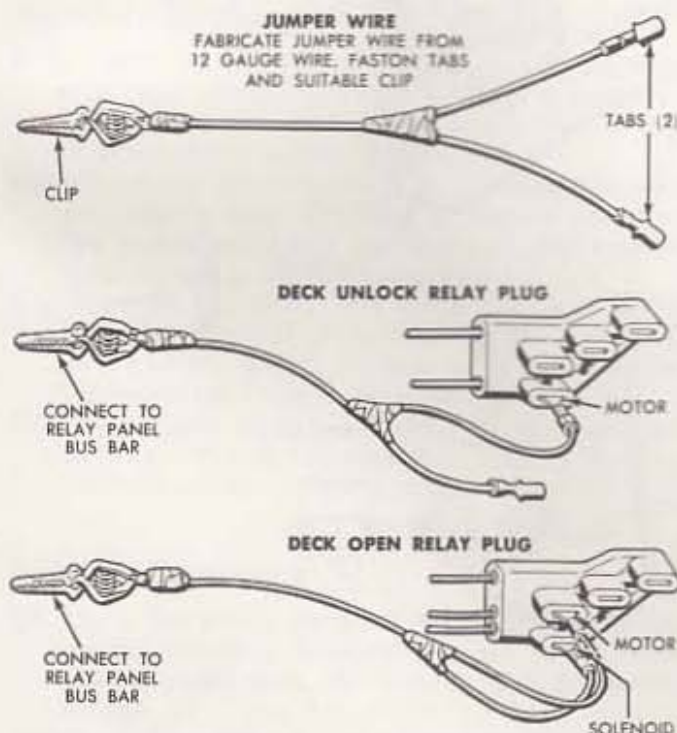

Fig. 27—Jumper Wire for Opening Deck Lid
3. Fabricate a jumper wire as shown in Fig. 27. Energize the deck unlock motor through the disconnected multiple plug and the relay panel bus bar with the jumper wire.
5. If the deck lid will not open after being unlocked, remove the multiple plug from the deck open relay located behind the rear seat back. Energize the deck motor and pump assembly through the deck open relay plug with the use of the jumper wire (Fig. 27).